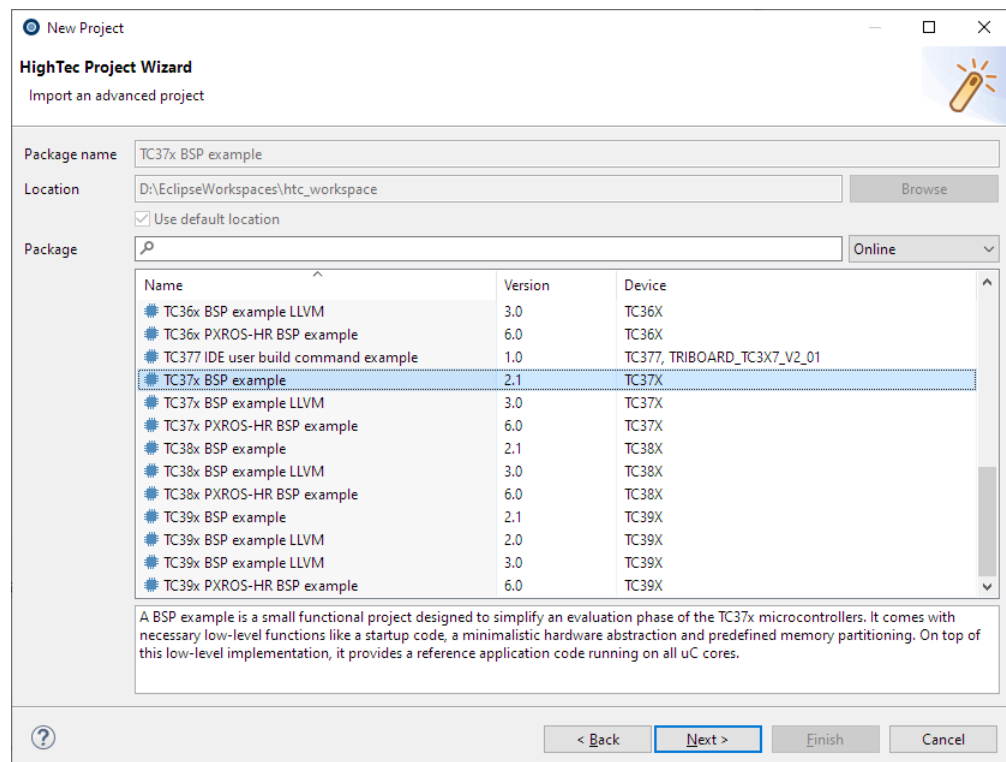

Figure 12 Example projects – Package Selection
3. The next wizard page (Figure 12) shows a selection of examples containing the TriCore APPKIT boards supported by the toolchain. Select an example, e.g. **TC37x BSP example**. Press **Next**.